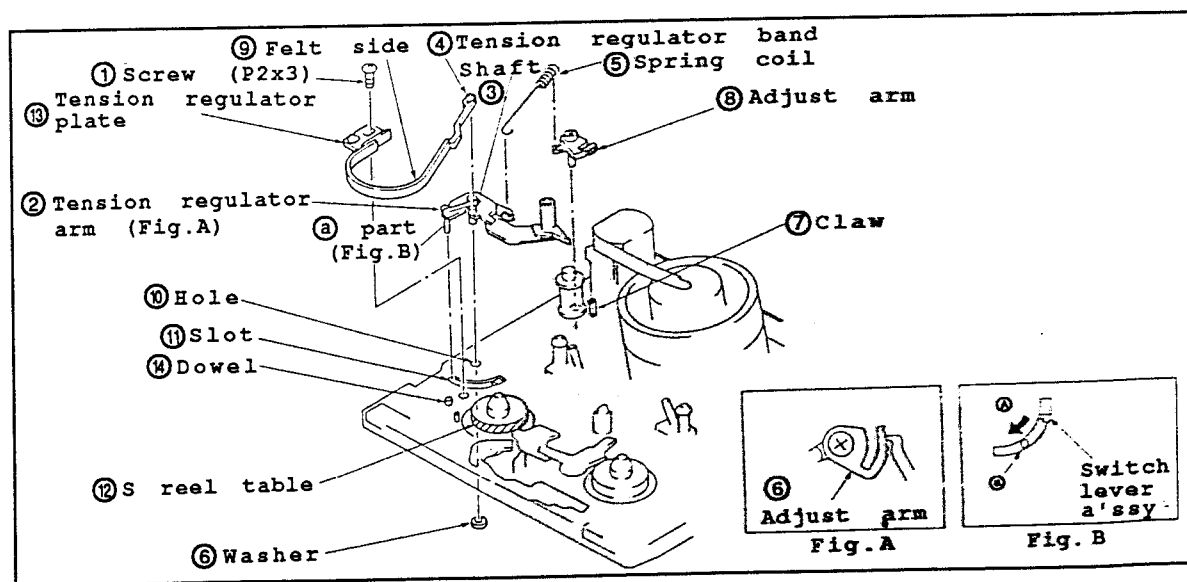

Fig.II-18
• Disassembling (Fig.II-18)
- (1) In the same procedures in "3-5", detach the TL plate.
- (2) Remove the screw ①.
- (3) Take off the tension regulator band from the shaft ③ of tension regulator arm ② by using a thin screwdriver or equivalent.
- (4) Remove the spring coil ⑤.
- (5) Remove the washer ⑥ from the rear side of mechanical chassis. Then, detach the tension regulator arm ②.
- (6) To detach the adjust arm ⑧, unhook the claw ⑦.
*Note: When detaching the tension regulator band ④, be careful not to twist or fold it. Also, when detaching it, do not touch the felt side ⑨ and drop the oil.
• Reassembling (Fig.II-18)
- (1) Mesh the adjust arm ⑧ with the position indicated in the Fig. A, then, hook the claw ⑦.
- (2) Apply the 1/2 drop of oil to the hole ⑩.
- (3) Attach the tension regulator arm ② to the slot ⑪ while inserting ③ part inside of switch lever a'ssy. (A indicated by an arrow.) (Fig.B)
- (4) While pressing the tension regulator arm ② from the front side of chassis, secure it with a washer ⑥ from the rear side.
- (5) Hook the spring coil ⑤ to the adjust arm ⑧ and the tension regulator arm ②, respectively. The direction of coil is as indicated in the Fig.
- (6) Attach the tension regulator band ④ to the shaft ③ of the tension regulator arm ② while fitting the felt side ⑨ onto the shadow area of S reel table ⑫.
- (7) Assemble the tension regulator plate ⑬ of the tension regulator band ④ while aligning it with the dowel ⑭ of chassis. Then, secure it with the screw ①.
- (8) In the same procedures in "3-5", attach the TL plate.
- (9) In the same procedures in "3-21", perform the tension regulator adjustment.
- (10) In the same procedures in "3-22", perform the back tension adjustment.